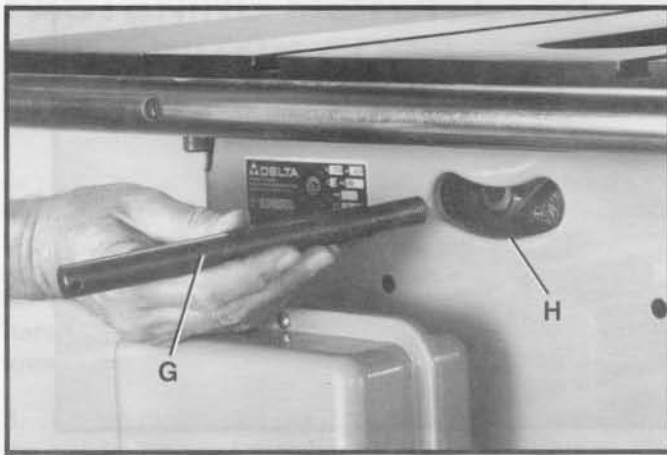
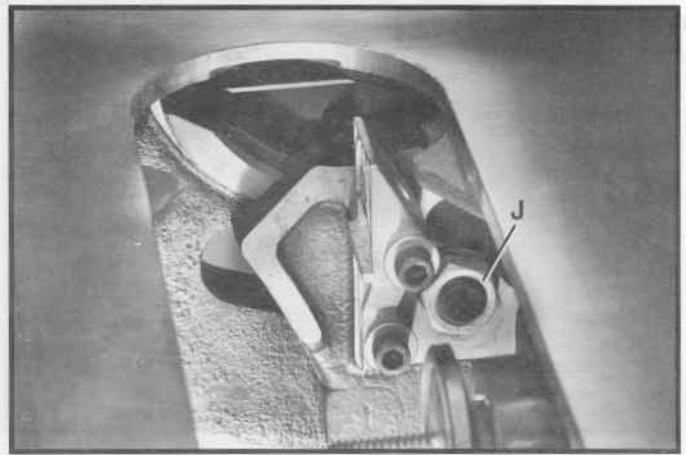
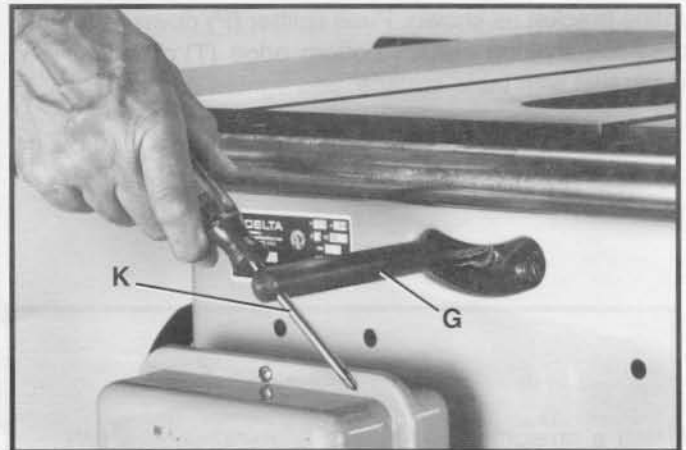

Fig. 20
Fig. 21
Fig. 22
6. Insert threaded end of support rod (G) Fig. 20, through slot in back of saw and through hole (H) in rear trunnion. Fasten support rod (G) Fig. 20, to trunnion using star washer and nut (J) Fig. 21. **NOTE:** Thread nut (J) onto threaded end of support rod as far as possible by hand. Using a wrench to hold nut (J) Fig. 21, tighten rod (G) Fig. 22, using a small screwdriver (K) or similar device through hole in end of rod (G) as shown.